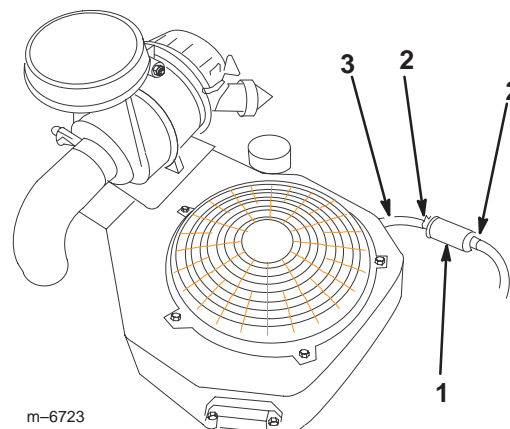

Figure 40
3. Loosen the hose clamp at the fuel filter and slide it up the fuel line away from the fuel filter (Fig. 40).
4. Pull the fuel line off of the fuel filter (Fig. 40).
6. Install the fuel line onto the fuel filter. Slide the hose clamp close to the fuel filter to secure the fuel line (Fig. 40).
3. Squeeze the ends of the hose clamps together and slide them away from the filter (Fig. 40).
5. Install a new filter and move the hose clamps close to the filter (Fig. 40).